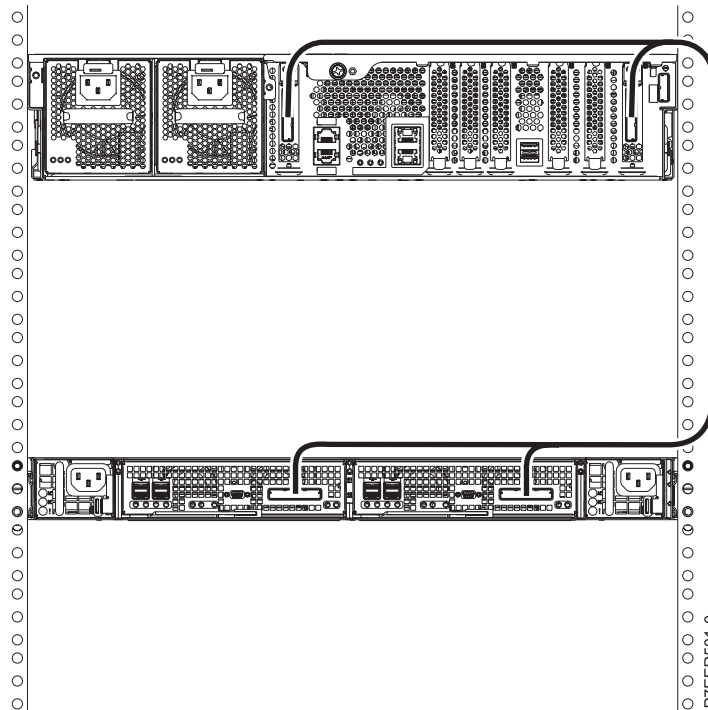

Figure 19. One EDR1 PCIe storage enclosure connected to an 8231-E2D system by using two FC EJ0H PCIe2 GX++ adapters and two PCIe cables
Figure 19 shows an example of connecting an EDR1 PCIe storage enclosure to an 8231-E2D system by using two feature code (FC) EJ0H PCIe2 GX++ adapters and two PCIe cables.